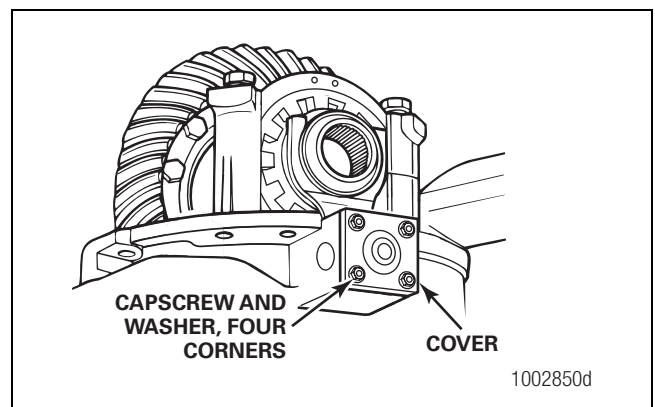

Figure 7
2. Remove the four capscrews and washers that hold the cover. Remove the cover. Figure 7.